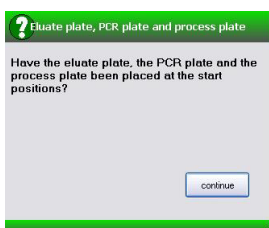

Figure 17. Requested plates - dialog window
27. Check for the necessary plates (Fig. 17).